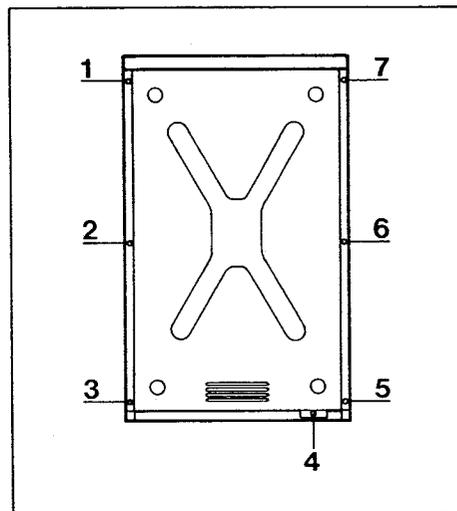

Fig. 1A
**IMPORTANT - Should the power-cord require changing, move the rear cover by unscrewing the screws following directions of fig. 1A. The section of the wires in the cable must in no case be less than 2,5 mm. (3 x 2,5 cable).**